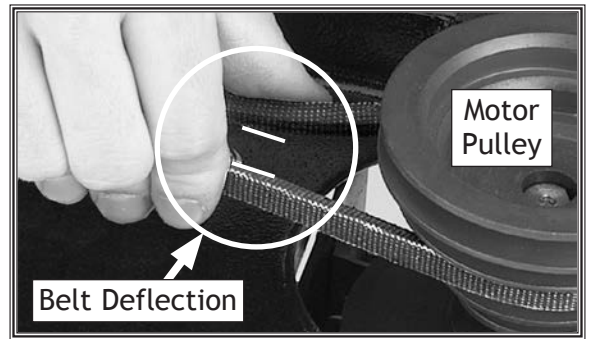

Figure 28. Measuring belt deflection.
28. Push the motor toward the back of the headstock until the belt deflection is $1\frac{1}{2}$ " between both inner sides when the belt is pinched together between the pulleys, as shown in **Figure 28**. Refer to **Changing Spindle Speed** on **Page 32** for details.